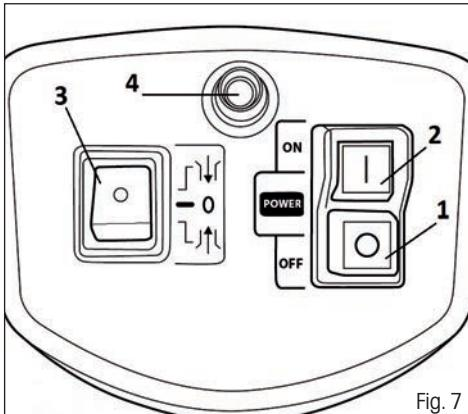

Fig. 7
### Turning the shredder on and off (Fig. 7)
- ✿ To turn on the shredder, press the button with the "I" symbol. Fig. 7, point 2
- ✿ To turn off the shredder, press the button with the "O" symbol. Fig. 7, point 1
### Forward / reverse rotation switch (Fig. 7, point 3)
- ❖ The shredder is equipped with overload protection (Fig. 7, point 4)
4. Press the safety fuse button (Fig. 7, point 4).